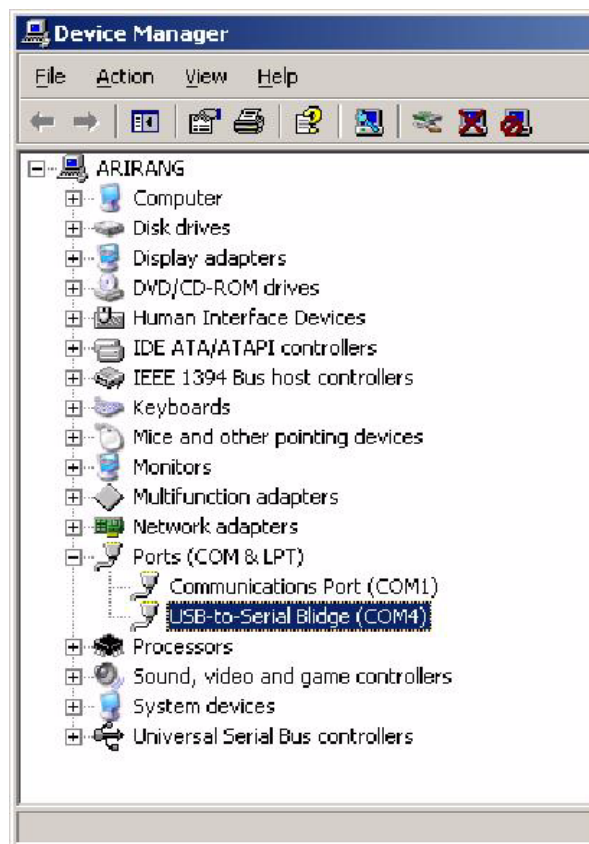

Figure 8-196 Device Manager Windows
- 8.) Make sure “**USB to Serial Bridge**” is displayed as shown the Figure 8-196